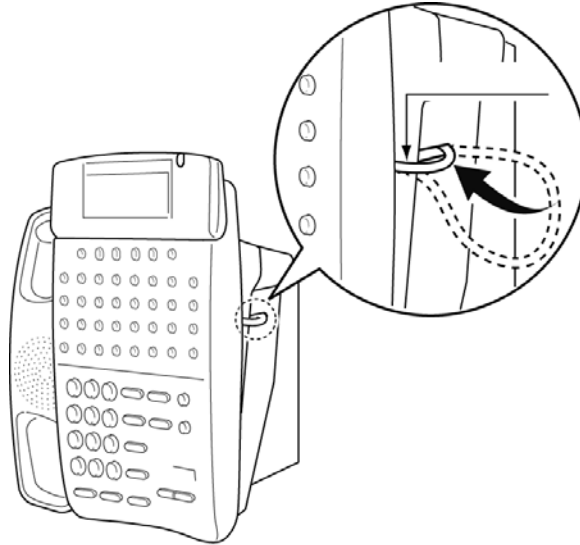

Figure 4-35: Hiding Excess Cord Behind the Wall Mount Unit
6. Push spare line cord behind the telephone as shown in *Figure 4-35: Hiding Excess Cord Behind the Wall Mount Unit.*